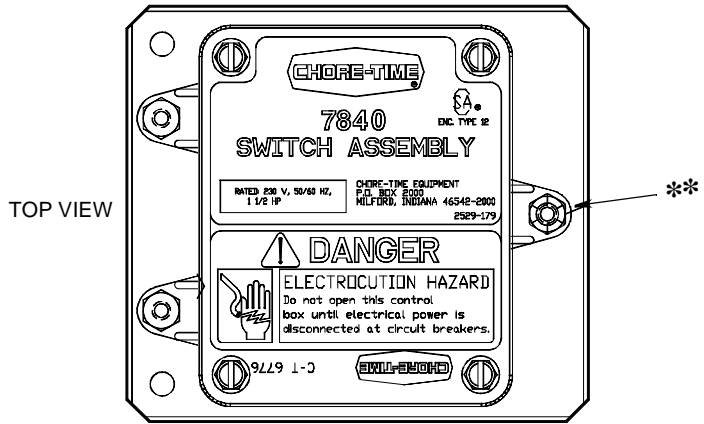

Figure 1.
4. To adjust the Switch, turn the spring-tightening Nut on the Switch (** **Figures 1** and **3**) counter-clockwise until the Switch clicks. Once the Switch clicks, turn the Nut clockwise one-and-a-half turns past the click.